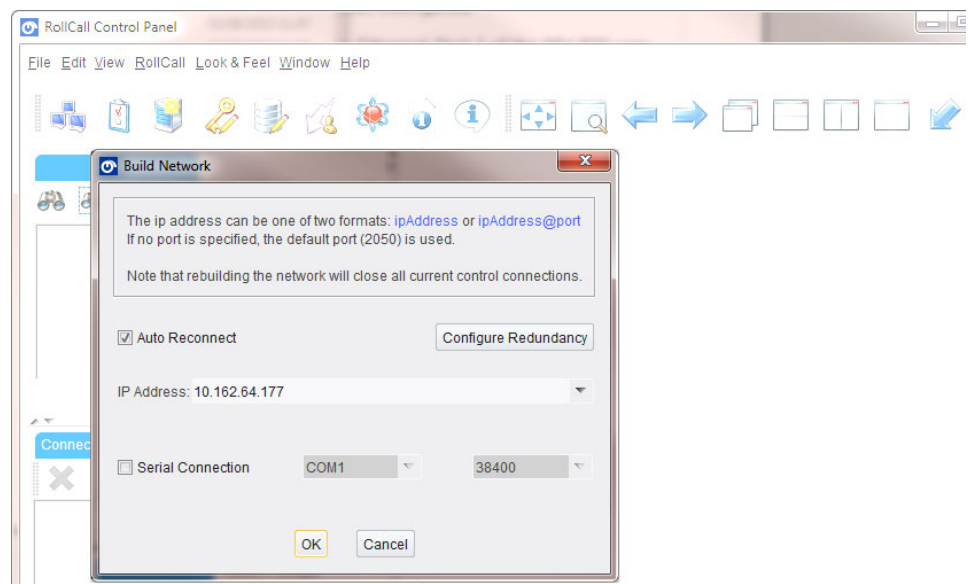

Fig. 8-3: Build Network Dialog
- 2 Click on the **Build Network**  icon in the RollCall tool bar to display the **Build Network** dialog. See Figure 8-3.